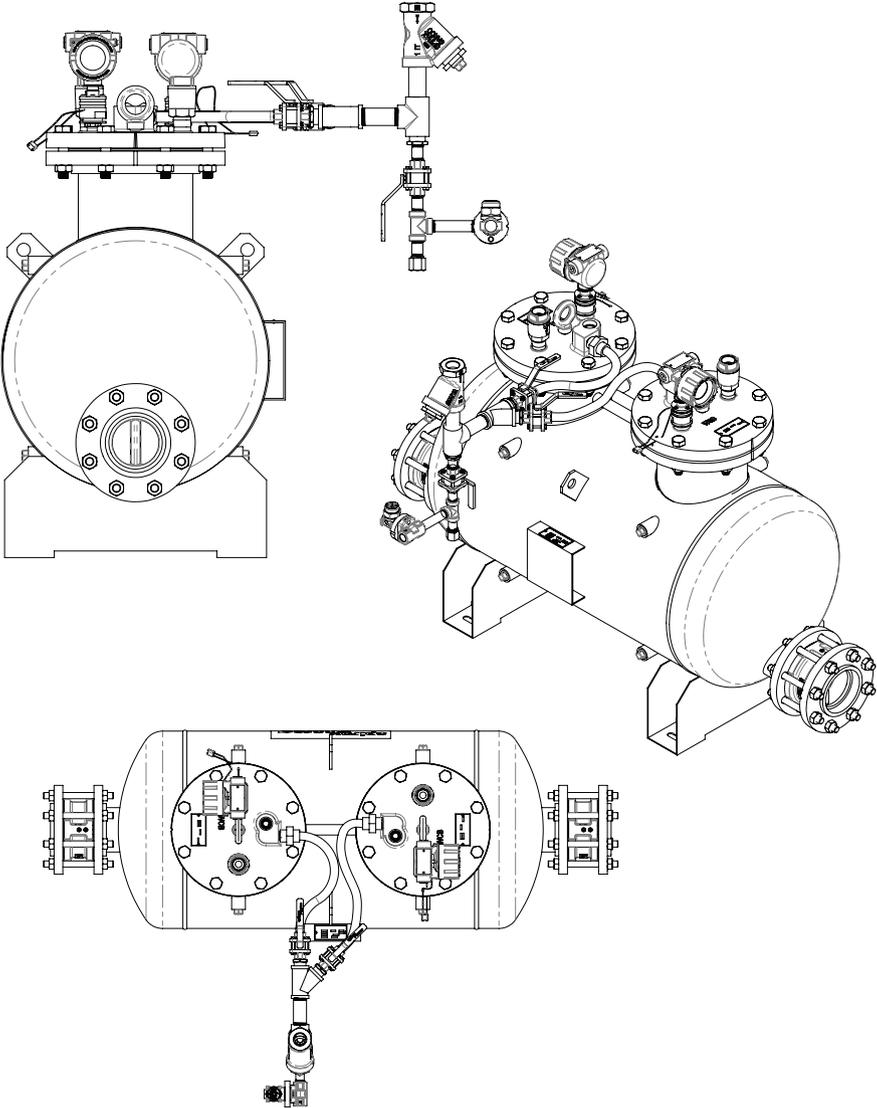

Fig. 4
At a minimum, when using steam, the inlet piping should be at least 2" NB pipe from the steam header dropping to the pump. Only when the steam (motive) inlet pipework is close to 2 ft to the pump should the motive line piping be reduced and split equal into two separate lines. These should be of equal diameter and length to be fed into each mechanism's motive inlet. This will ensure steam (air or motive gas) is supplied uni-formly to each of the PTF4 pump mechanism and will provide synchronous operation of both mechanisms. (see Figure 4 opposite)
b) Pump "blow-by".	b) Check condensate inlet pressure and static backpressure at the pump discharge. If the inlet pressure equals or exceeds the static backpressure, a "blow through" problem is suspected. On vented systems, check for leaking traps discharging into the condensate inlet line which would increase inlet line pressure. Replace any faulty traps. On closed loop systems, if condensate inlet pressure can exceed static backpressure under normal operation (i.e. boost in equipment operating pressure via a modulating control valve or significant decrease in static return main pressure), a pump trap combination is required. The pump trap combination will prevent passage of steam into the return main and allow the pump to cycle normally when condensate is present (See Fig. 4)